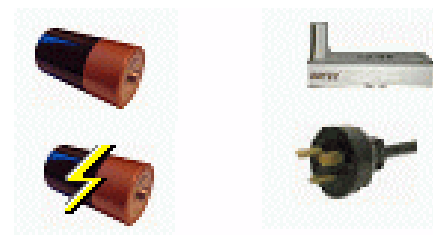

Figure 12. Power Source Icons.
The icon on the right side of the screen above the buttons (Fig. 12) shows the current type of power connection. These are, clockwise from upper left: (1) internal battery, (2) unit properly connected to the docking station or power adapter/charger, (3) external power to operate unit, and (4) battery charging.